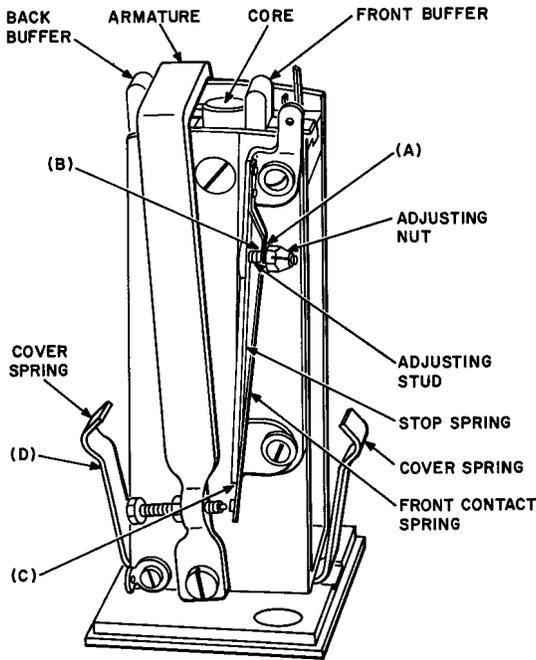

Fig. 1 — 85F-Type Relay — Arrangement of Operating Parts
**2.03** *Cover Spring Pressure* — Fig. 1 (D): The cover springs shall have sufficient pressure against the cover to hold the cover securely in place. Gauge by feel.
**2.04** *Adjusting Nut Tightness — 85F-Type Relay:* The adjusting nut shall be sufficiently tight on the adjusting stud to hold any adjusted position. Gauge by feel. See Fig. 1(A).
**2.05** *Adjusting Stud and Contact Spring Clearance* — Fig. 1(B): The front contact spring shall not bind on the adjusting stud. Gauge by feel.
**2.06** *Front Contact Spring Position* — Fig. 1 (C): The front contact spring shall rest against the stop spring at the end nearest the contact when the relay is unoperated. Gauge by eye.